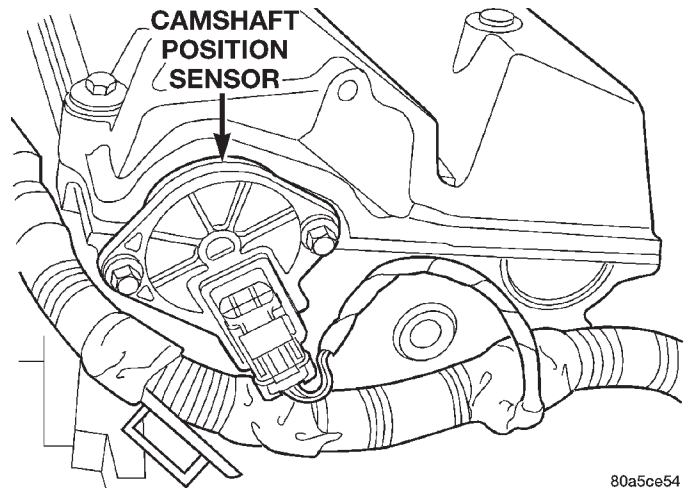
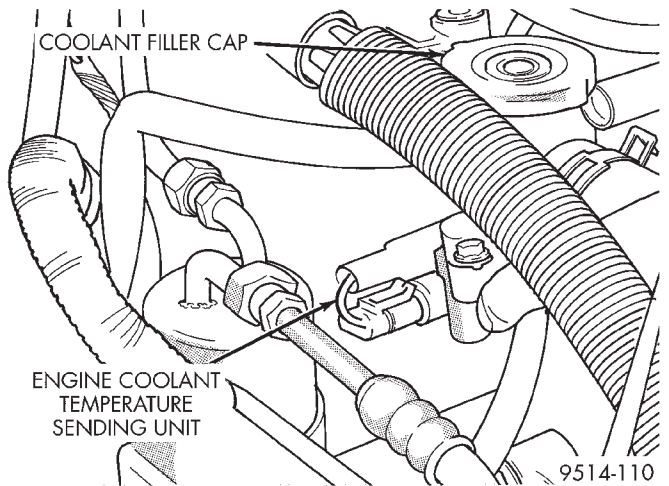
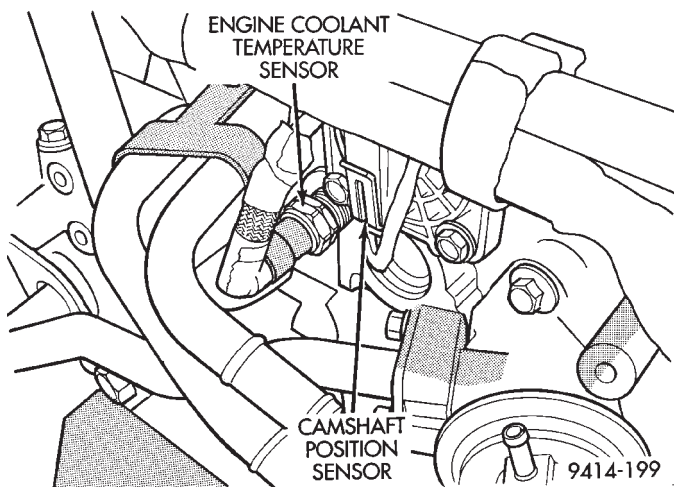
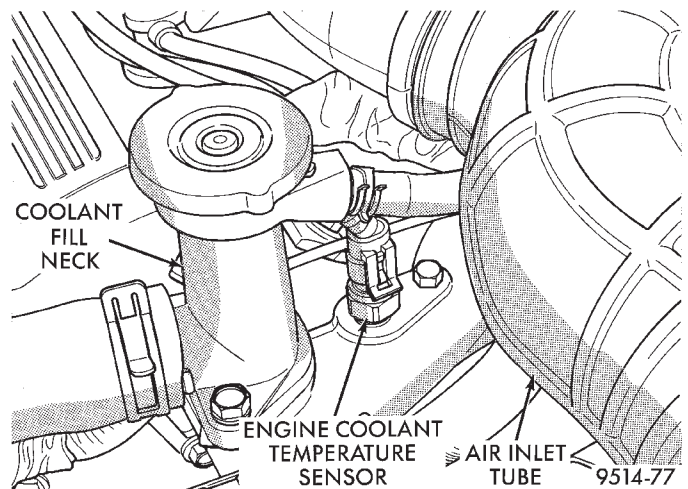

Fig. 51 Camshaft Position Sensor—2.4L Engine
Fig. 52 Engine Coolant Temperature Sensor—2.4L Engine
Fig. 50 Camshaft Position Sensor and Engine Coolant Temperature Sensor—2.0L Engine
Fig. 53 Engine Coolant Temperature Sensor—2.5L Engine
(16) Check electrical connections at the camshaft position sensor (Fig. 50) or (Fig. 51).
(17) Check electrical connections at the engine coolant temperature sensor (Fig. 50), (Fig. 52) or (Fig. 53).